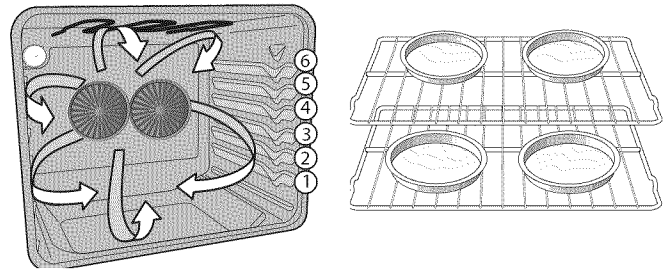

Figure 14: Rack positions **Figure 15: Pan spacing**
- For best results when baking cakes using two oven racks, place flat rack in position 5 and the glide rack in position 1. (See Figure 14).